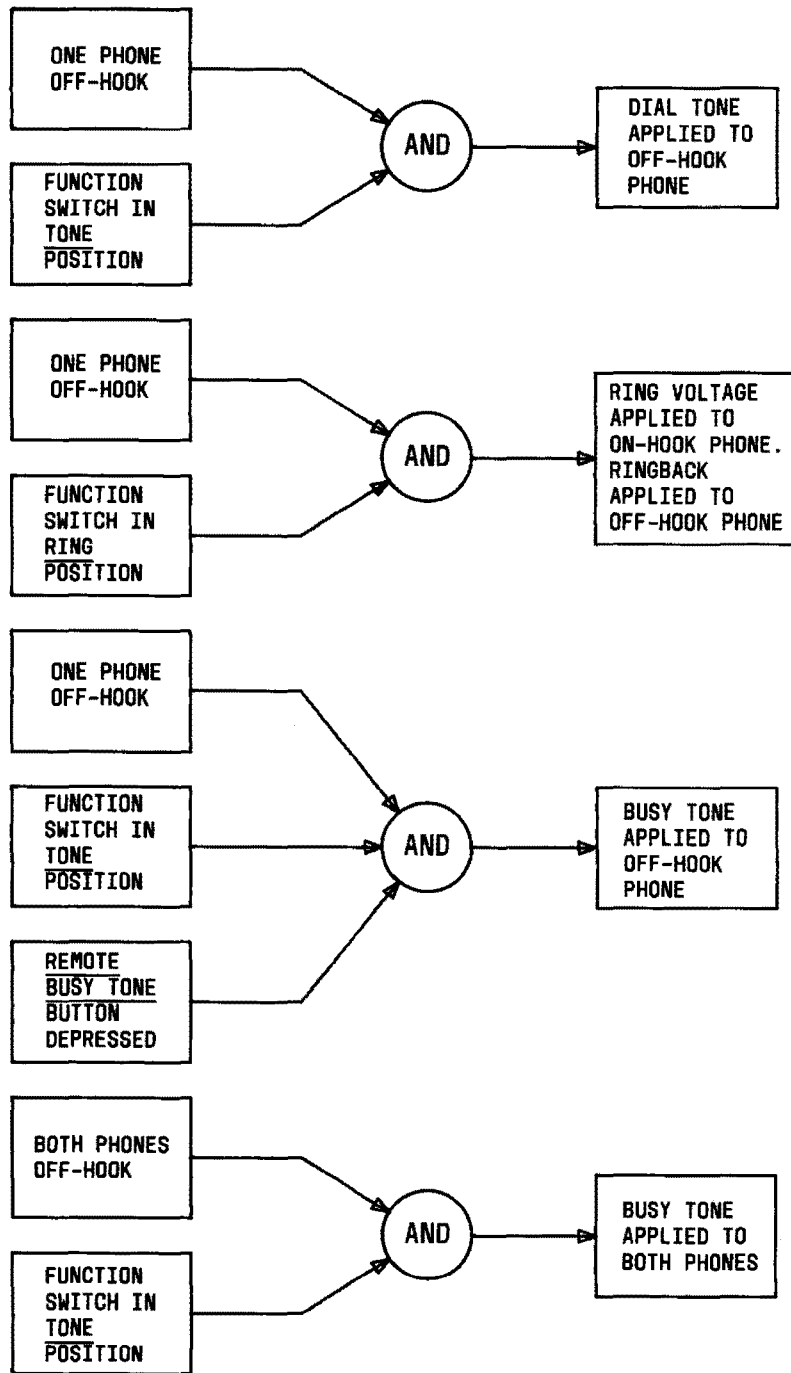

Fig. 7—Teletrainer Operational Logic
**3.05** Use of the Teletrainer is summarized in the operational logic diagram (Fig. 7) and the call sequence diagram (Fig. 8). The teacher is responsible for operating the RING-TALK-TONES 3-position toggle switch and the REMOTE BUSY TONE button to apply the proper signals to the calling and called telephones and for adjusting the output level of the loudspeaker with the VOLUME knob.